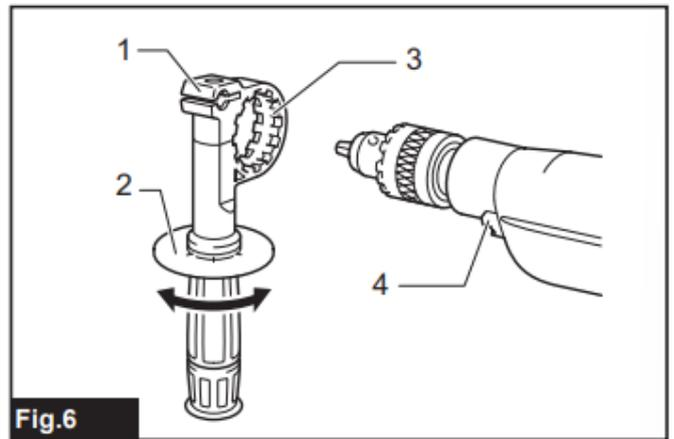

Fig.6
► **Fig.6:** 1. Grip base 2. Side grip (auxiliary handle) 3. Teeth 4. Protrusion